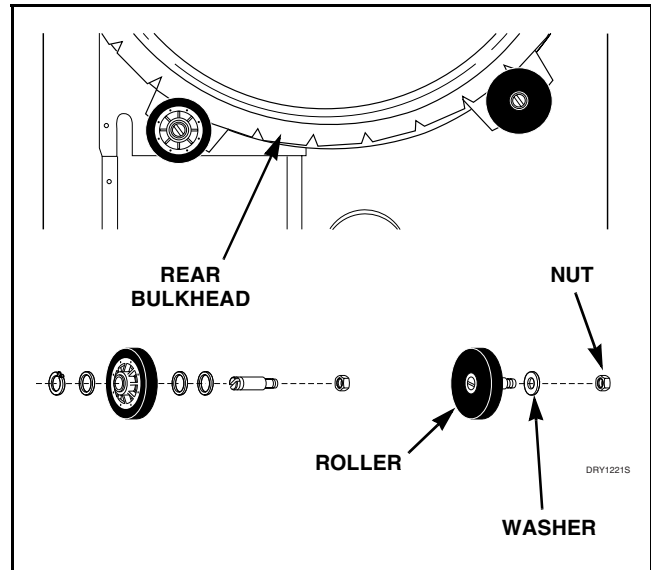

Figure 36
- g. Refer to *Figure 36* for removal of roller from roller shaft.